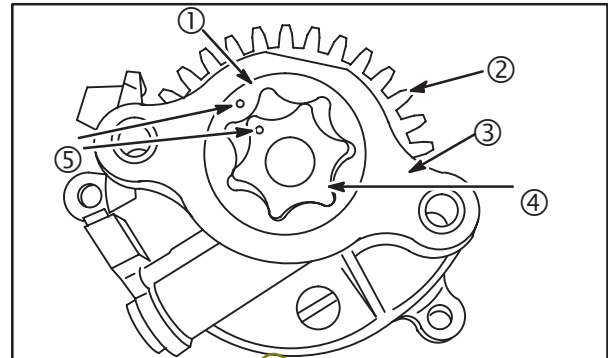

Fig. 16
Lubricate rotors with oil. Install in pump with dimples aligned (5). **Fig. 16.**